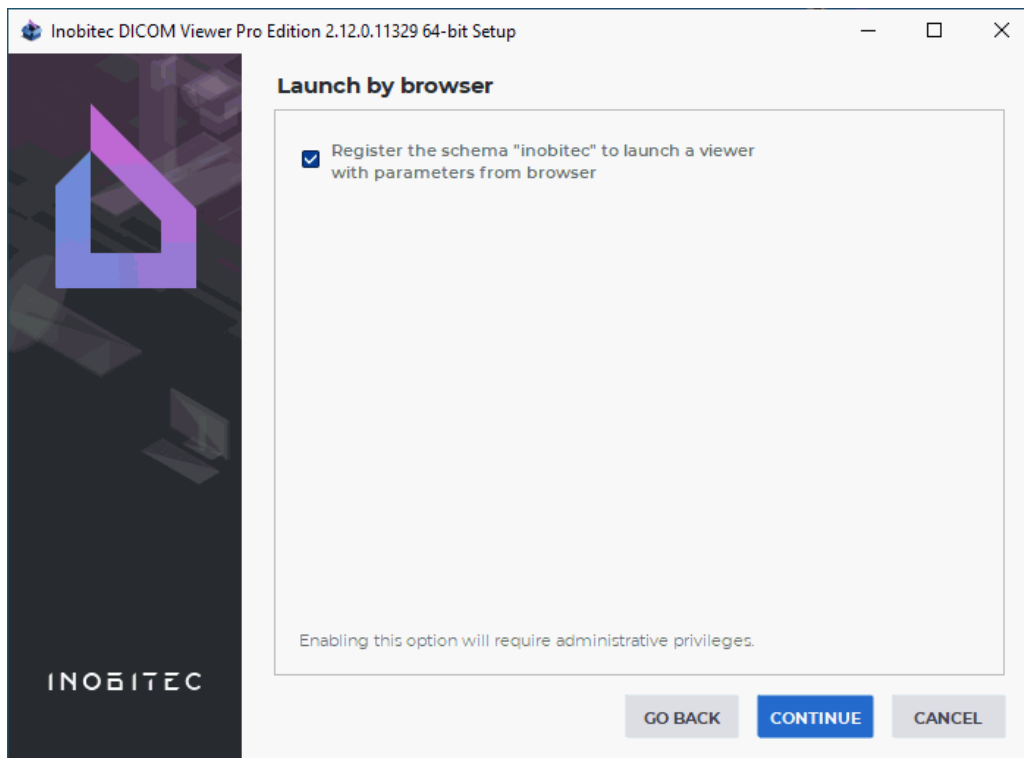

Figure 7: Window for activating the DICOM Viewer launch with the help of URL commands
9. If the DICOM Viewer is meant to be integrated with third-party systems, activate the program launch with the help of URL commands by checking the **Register the schema «inobitec» to launch a viewer with parameters from browser** box in the **Launch by browser** window (Fig. 7). The box is unchecked by default. For details on how to launch the program with URL commands, see Section 19.2.